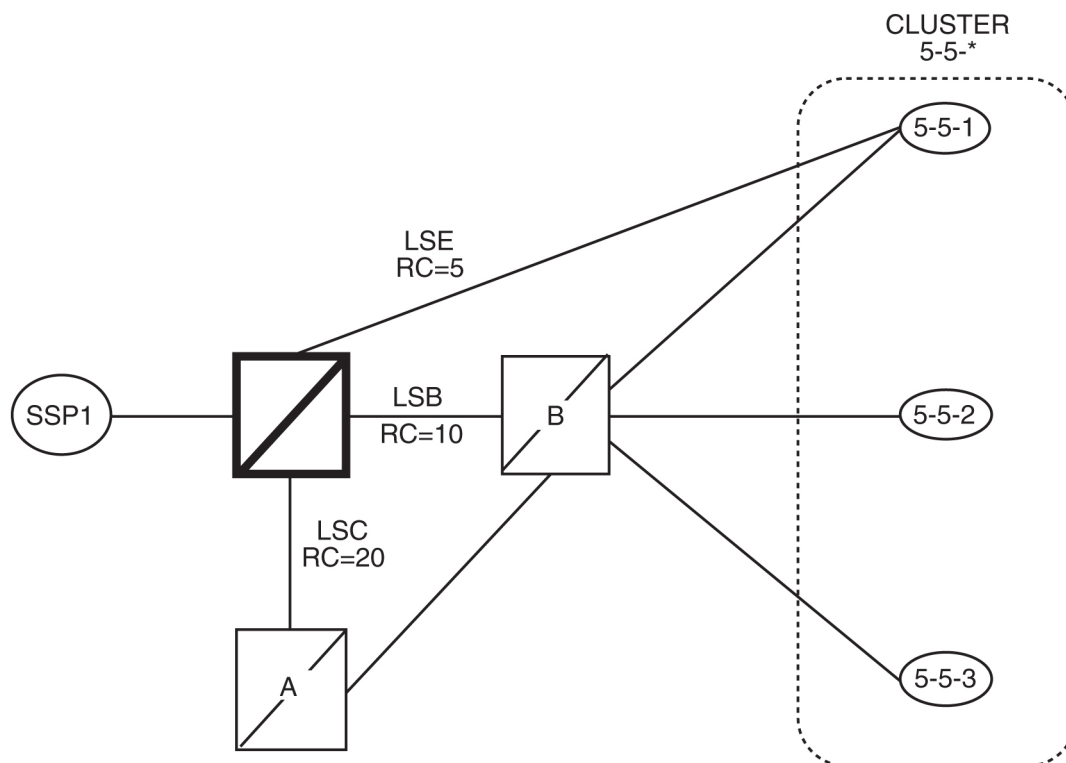

Figure 18: Nested Cluster Routing Sample Configuration
Figure 18: Nested Cluster Routing Sample Configuration provides an example of provisioning a nested cluster and its associated members.
1. The EAGLE 5 ISS allows the user to enter a full point code routeset entry even if the point code is a member of a cluster that has a different routeset. For example, in Figure 18: Nested Cluster Routing Sample Configuration, the provisioned member 5-5-1 has a different routeset than the cluster's routeset.
For example, in Figure 18: Nested Cluster Routing Sample Configuration, if linkset LSB fails, a TCP message for cluster 5-5-* is not broadcast because the least restrictive status of provisioned member 5-5-1 is allowed.
3. The EAGLE 5 ISS does not send preventive TCPs when it begins routing toward a nested cluster. The EAGLE 5 ISS sends response-method preventive TFPs if it receives an MSU and there is danger of circular routing. For example, in Figure 18: Nested Cluster Routing Sample Configuration, the EAGLE 5 ISS does not send a preventive TCP for cluster 5-5-* when routing to cluster 5-5-* over linkset
Figure 18: Nested Cluster Routing Sample Configuration provide an example of nested cluster routing. *Table 11: Routing Table for Nested Cluster 5-5-** and *Table 12: Routing Table for Full Point Code Member 5-5-1* show the routing tables for the cluster point code and one of the members of the cluster point code. *Table 13: Example of Nested Cluster Routing Failure and Recovery Actions* shows what actions the EAGLE 5 ISS takes when the linksets in a nested cluster configuration fail and recover. The actions in *Table 13: Example of Nested Cluster Routing Failure and Recovery Actions* are based on the example nested cluster routing configuration shown in *Figure 18: Nested Cluster Routing Sample Configuration*.